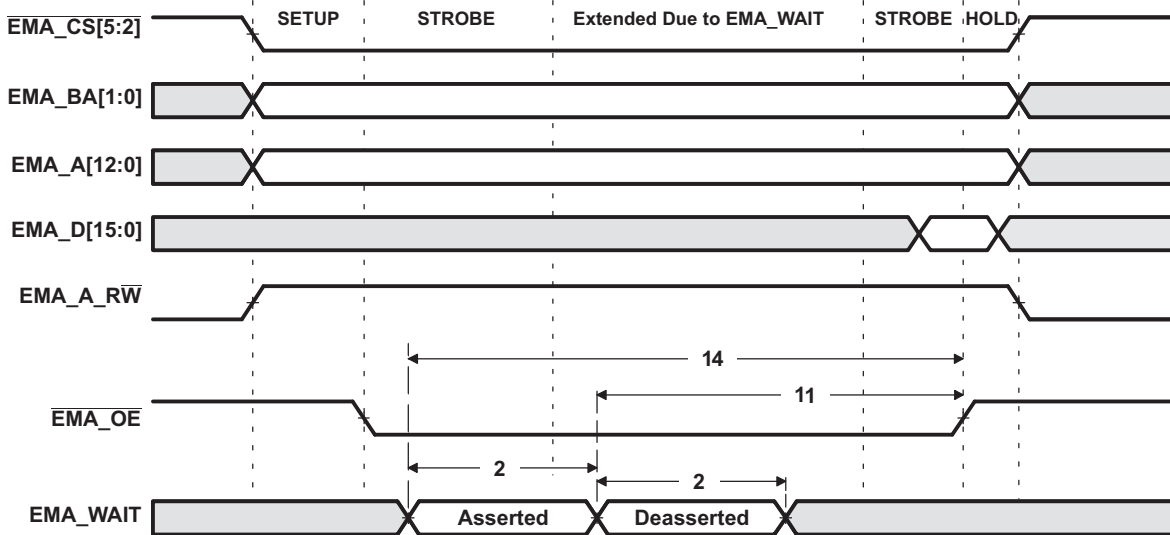
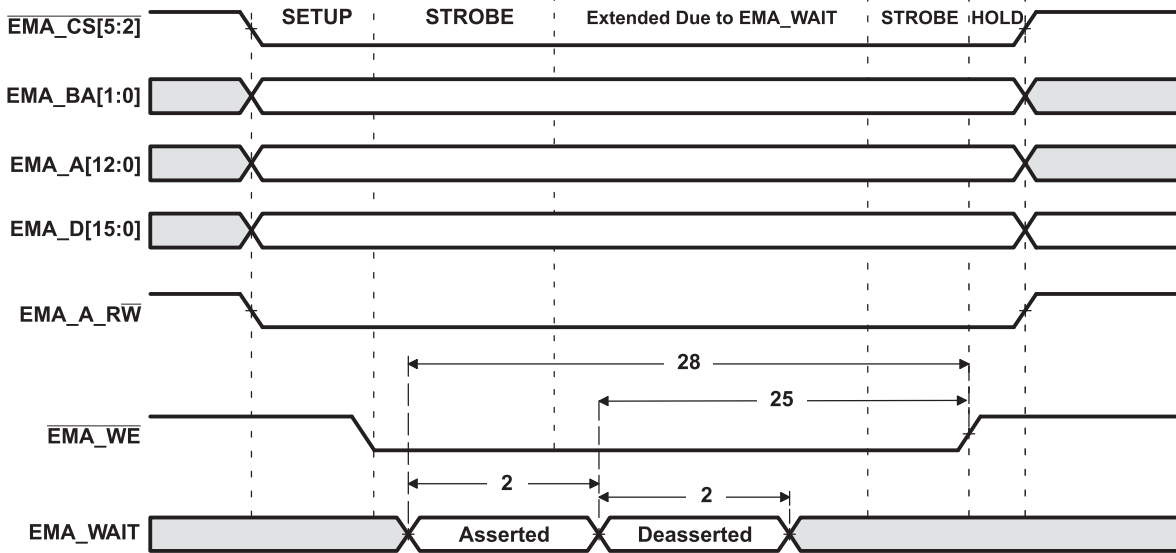

Figure 6-14. EMA\_WAIT Read Timing Requirements
Figure 6-15. EMA\_WAIT Write Timing Requirements
- (1) E = EMA\_CLK period or in ns. EMA\_CLK is selected either as SYSCLK3 or the PLL0 output clock divided by 4.5. As an example, when SYSCLK3 is selected and set to 100MHz, E=10ns
- (2) Setup before end of STROBE phase (if no extended wait states are inserted) by which EM\_WAIT must be asserted to add extended wait states. Figure 6-14 and Figure 6-15 describe EMIF transactions that include extended wait states inserted during the STROBE phase. However, cycles inserted as part of this extended wait period should not be counted; the 4E requirement is to the start of where the HOLD phase would begin if there were no extended wait cycles.
**Table 6-22. Switching Characteristics for EMIFA Asynchronous Memory Interface (1) (2) (3)**